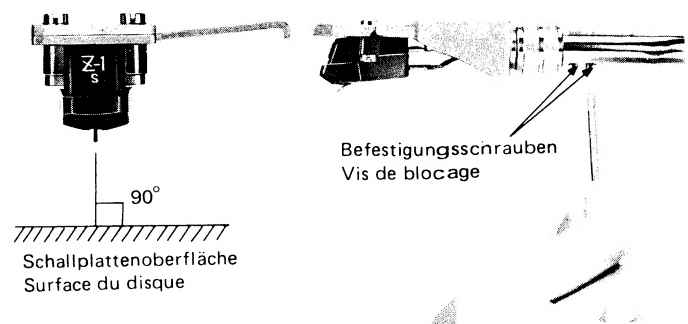

Fig. 13
#### 8-(4) Headshell mounting Angle Adjustment (Fig. 13)